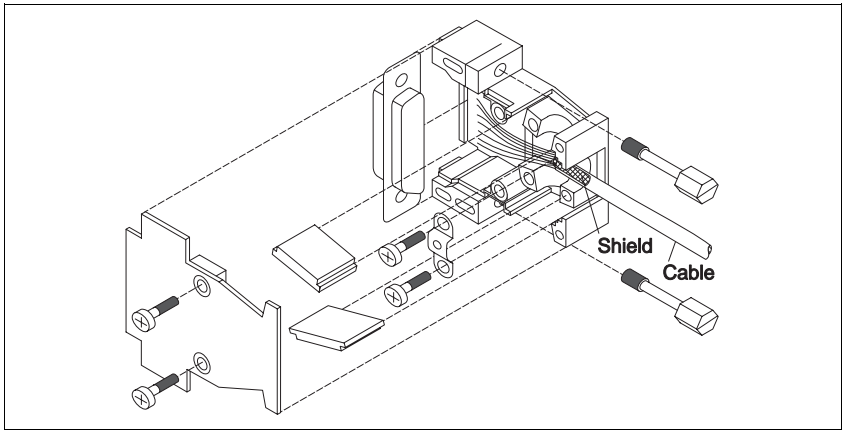

Fig. 5 Interface connector assembly
3. Insert two hexagon head bolts (fig. 5) into the connector shell.